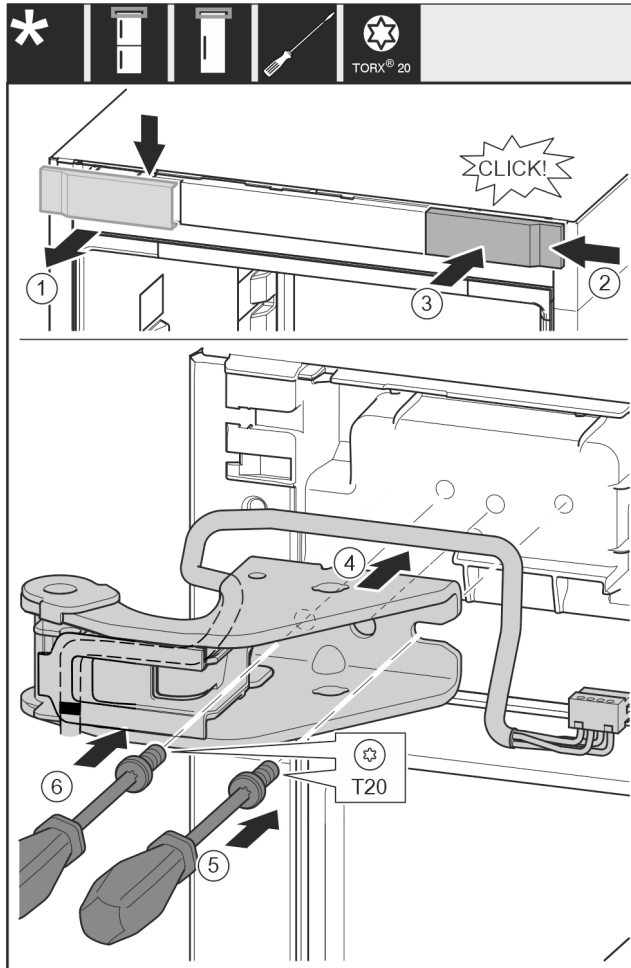

Fig. 32
- ▶ Remove the cover *Fig. 32 (1)* from the top towards the front.
- ▶ Hang the cover *Fig. 32 (2)* from the right turned by 180° to the other side.
- ▶ Snap in the cover *Fig. 32 (3)*.
- ▶ Attach the top swap bearing block *Fig. 32 (4)*.
- ▶ Attach and tighten the screw *Fig. 32 (5)* with a screw-driver.
- ▶ Attach and tighten the screw *Fig. 32 (6)* with a screw-driver.